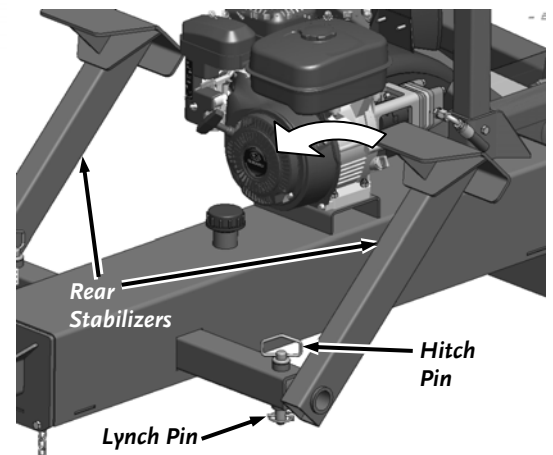

Figure 10
1. Pull the Rear Stabilizer Lynch-Pin from the Hitch pin and remove the Hitch Pin (**Figure 10**).